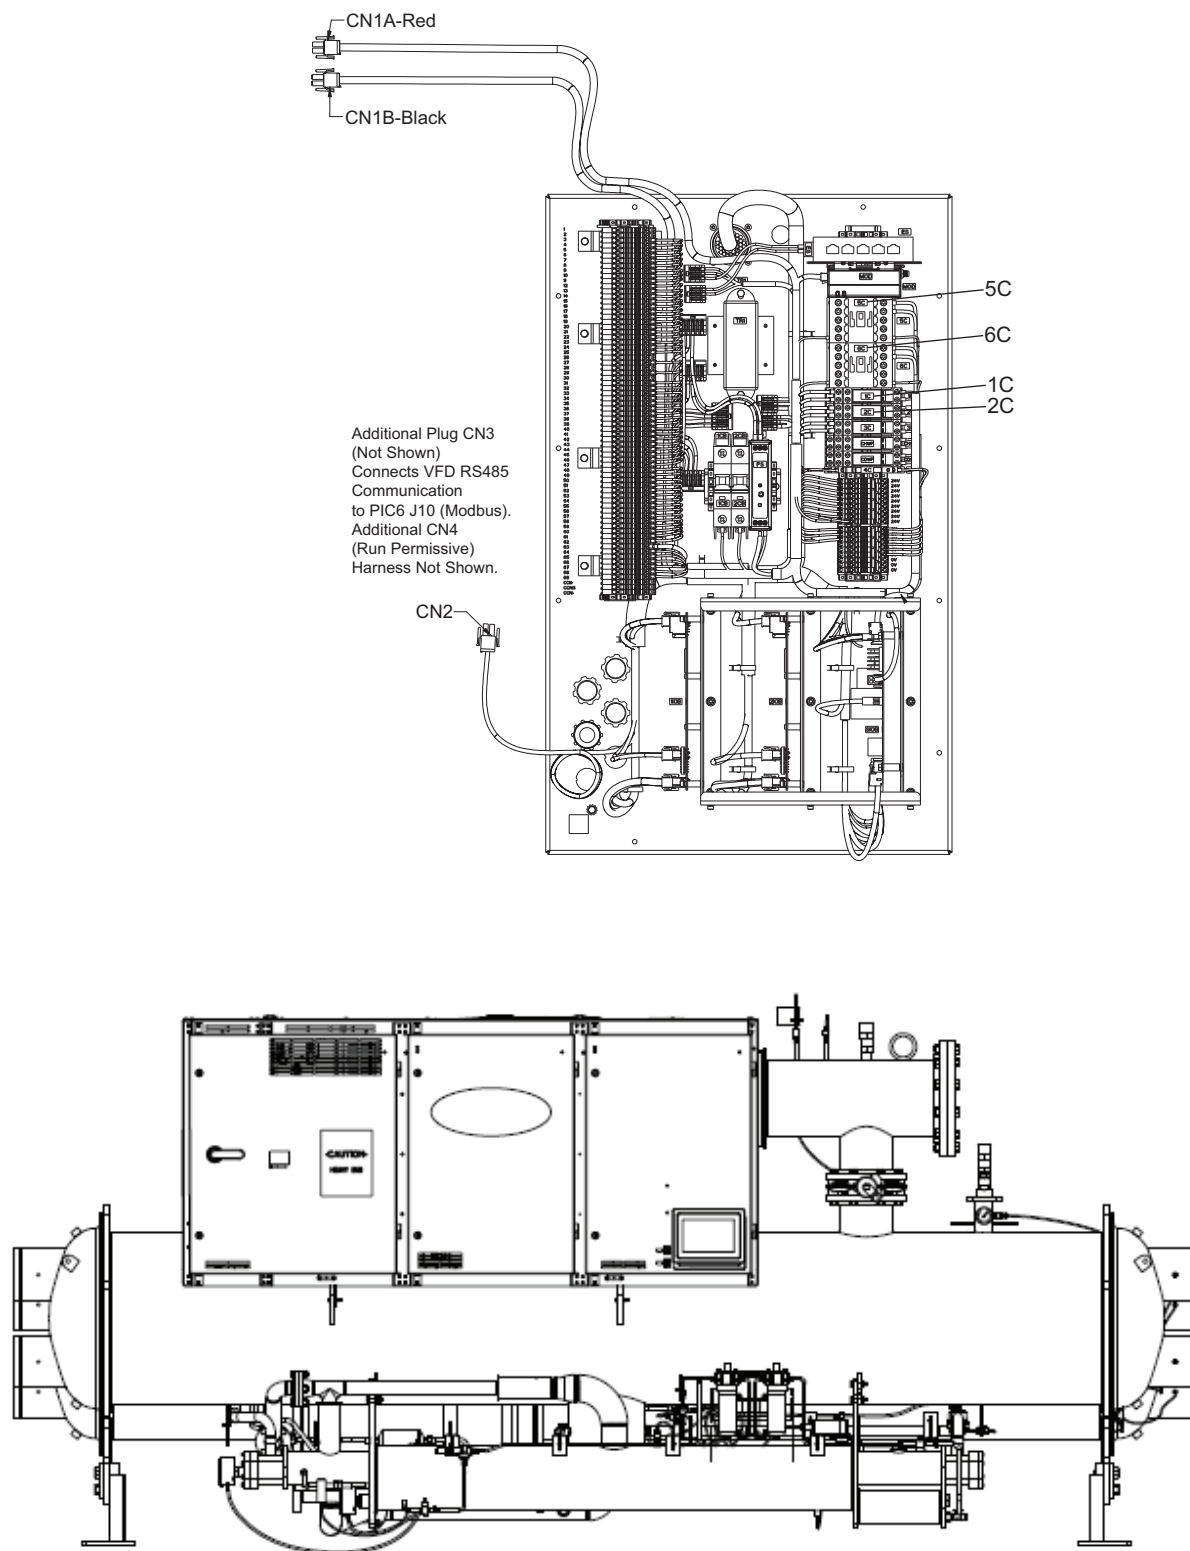

Fig. 57 — PIC6 Control Component Layout (All Compressor Units)
5. Connect the control wiring as shown in Fig. 57. Tighten all connections to 7 to 9 in.-lb.